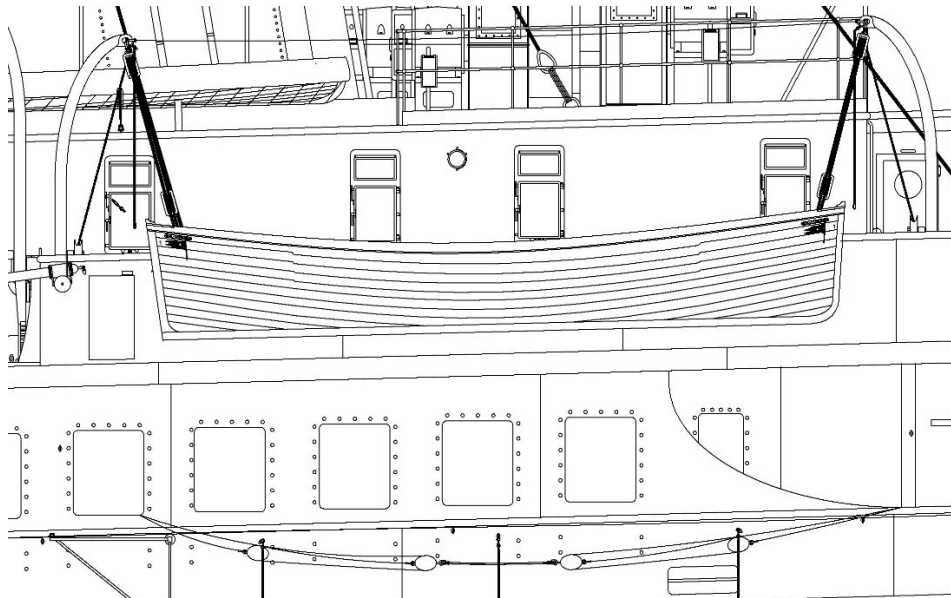

Figure 7
Step 3: The gripes are detached and cast off as shown in Figure 7.